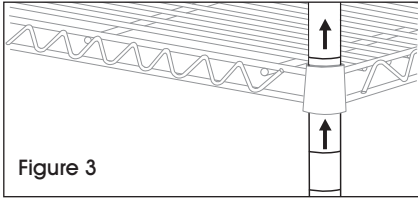

Figure 3
- Slide post through underside of shelf until shelf slides firmly over supports. (See Figure 3)